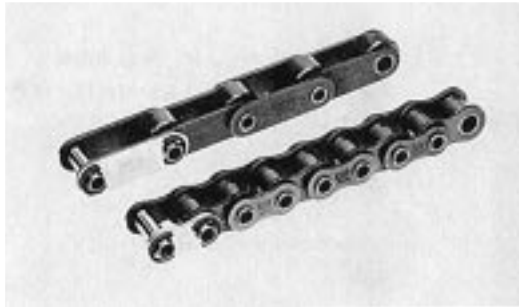
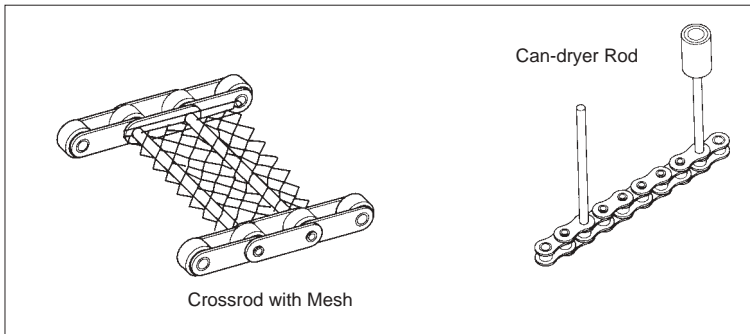

Figure 2.7 Hollow Pin Chain
Figure 2.8 Installing Attachments
In Hollow Pin Chain, the pin has a hole, allowing for the installation of various attachments (Figure 2.7). Usually these chains are used for conveyors (Figure 2.8). Sizes are shown in Tables 2.3 and 2.4.
- (1) The hollow pin is at the center of articulation, and always keeps the pitch length. Regardless of whether the chain is straight or wrapping around the sprocket, the center distance of attachments is always the same. Figure 2.8 shows an example of installing a mesh net. Even when the chains bend, the mesh net does not expand or contract.